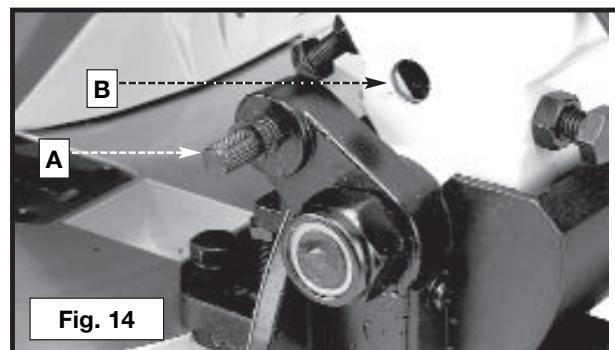

Fig. 14
When transporting the saw, lock the cuttinghead in the down position. Lower the cutting arm and push in the plunger (A) Fig. 14 until the other end of the plunger (A) engages with the hole in the cutting arm (B).